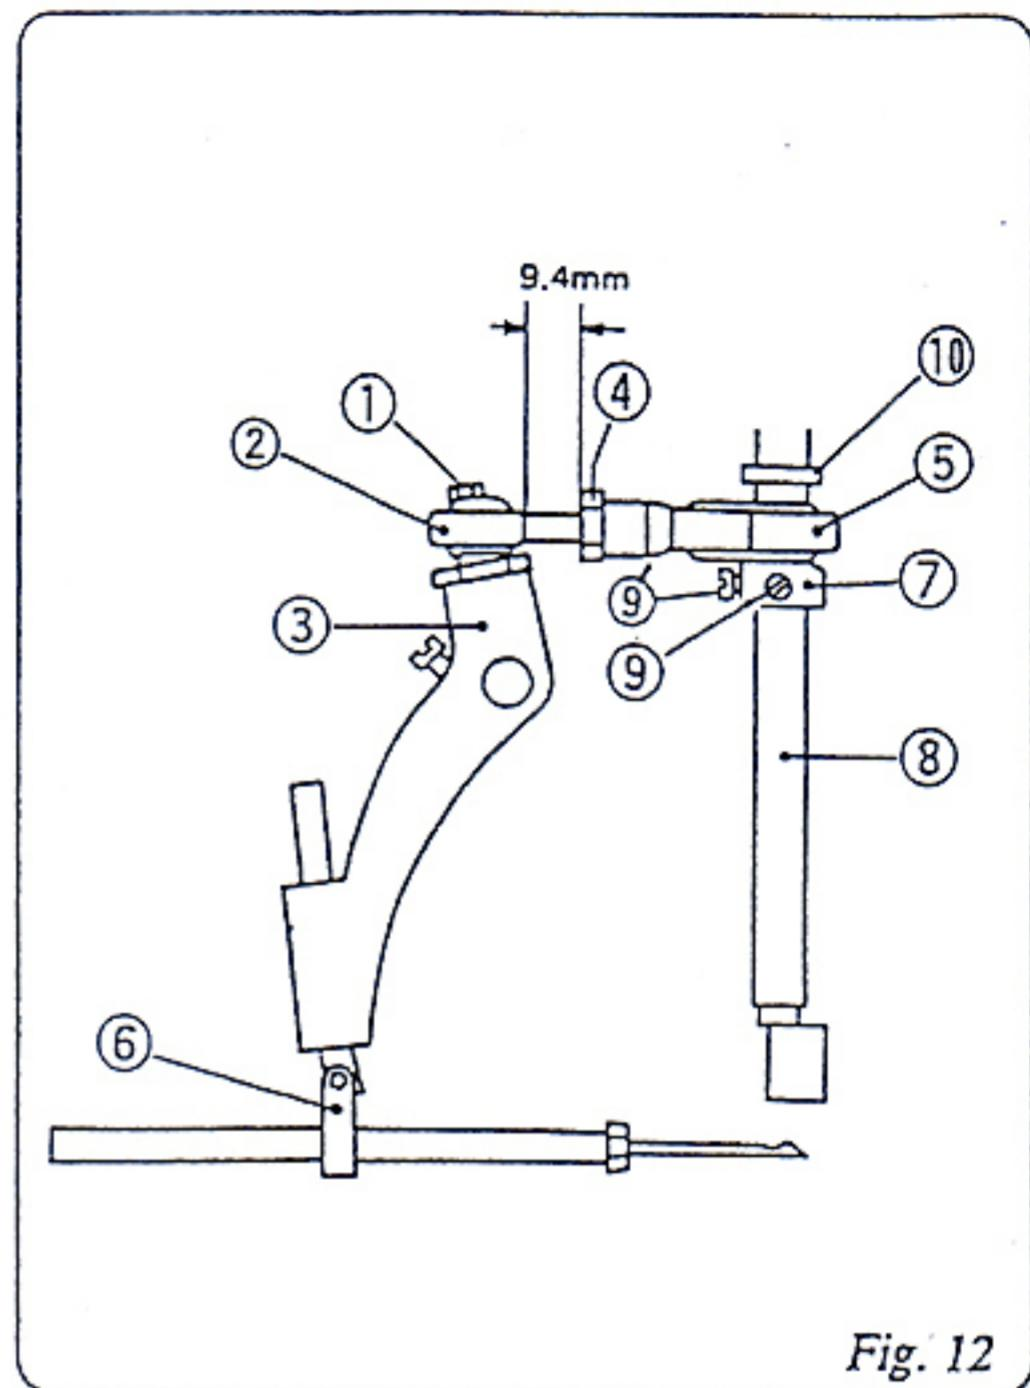

Fig. 12
For replacement or adjustment of Ball Rod, refer to Fig.12.
The position of Needle is adjusted so that the distance between the point of Needle (at its highest position) and Throat Plate is 13 mm, after loosening screw on Needle Bar Connection Assembly ⑥ in Fig.12.
- ① Screw 11/64S40089
- ② Rod End 6APOS8
- ③ Needle Bar Lever 242051A
- ④ Nut 1N8
- ⑤ Connecting Rod Assembly 242011A
- ⑥ Needle Bar Connection Assembly 242101A
- ⑦ Eccentric Cam (part of Connecting Rod Assembly) 242011
- ⑧ Main Shatt 241101
- ⑨ ⑩'Screw 11/64S40001
- ⑪ Spacer 241161